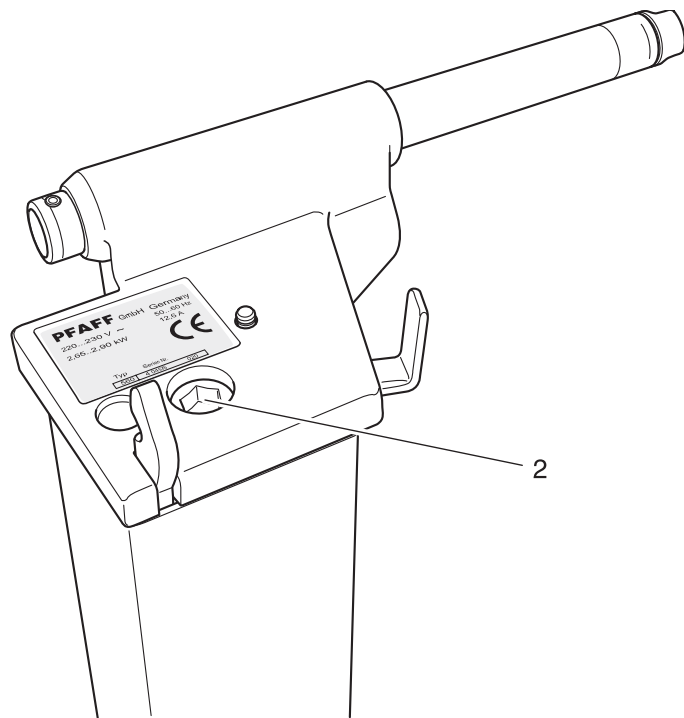

Fig. 17a
- Use an Allan key to remove screw 2 (fig. 17a).
- Insert swivel arm (Fig 17a).